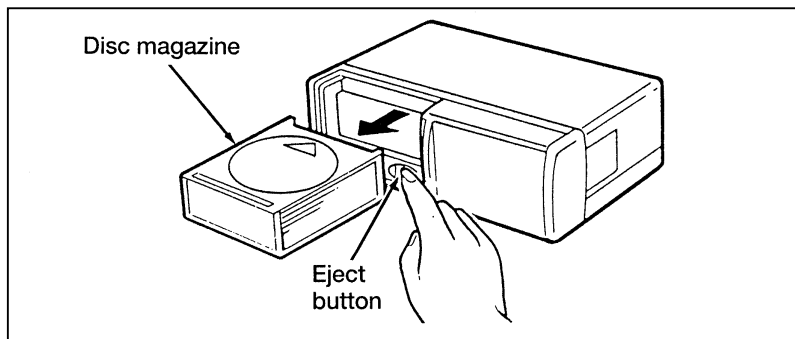

Figure 2
2. Push the “▲” button to eject the disc “magazine” (holds 6 discs) (Figure 2).